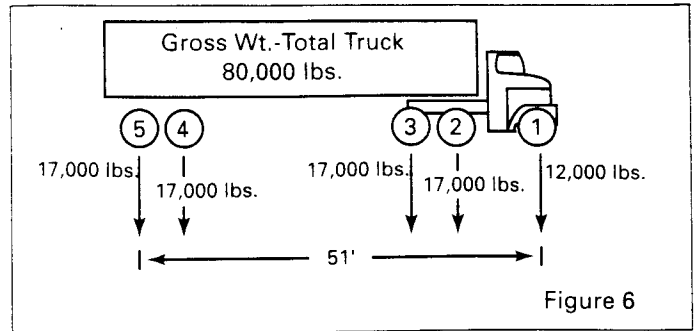

Figure 6
**Now check axles 1 thru 5 (Figure 6)**